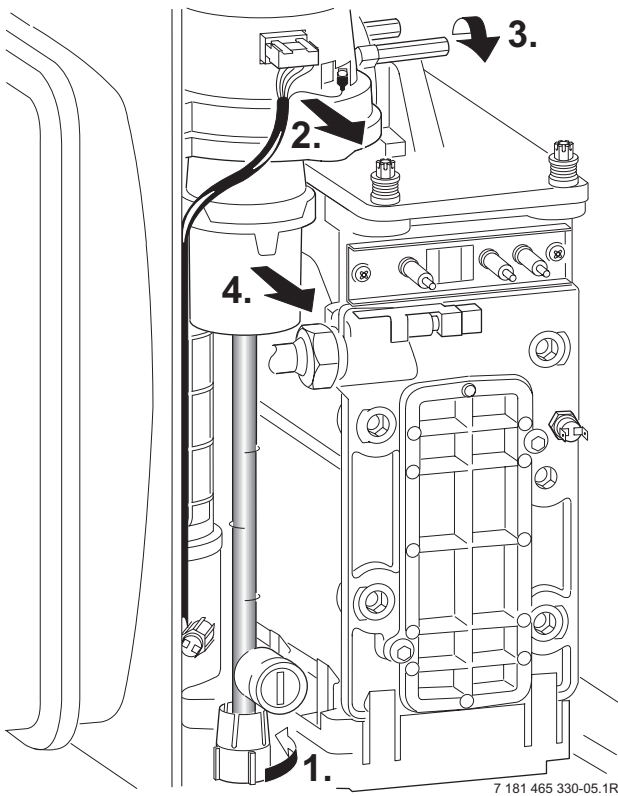

Fig. 62
- Undo lower pipe union on gas pipe (1.). Refer to fig. 62.
- Undo the union, within the inner casing, securing the valve to the gas/air tube. Refer to fig. 62.